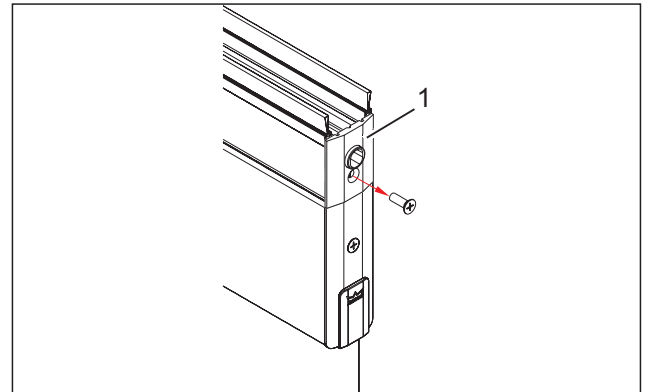

Fig. 32 Removing the cover
1. Remove the cover (Fig. 32/1) of the combination fixing block.